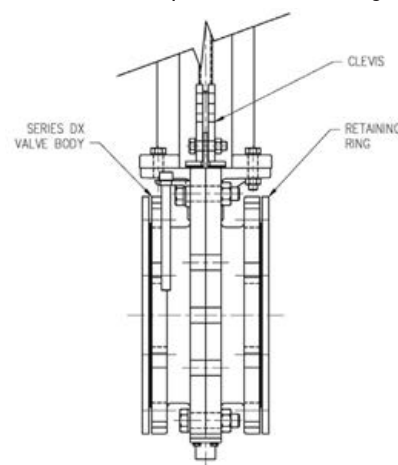

Figure 3
5. Standard retainer ring material is UHMW. Valves 10" and larger are shipped with retainer rings mounted to the valve. Retaining rings on valves 3" - 8" are optional. Refer to Figure 3.